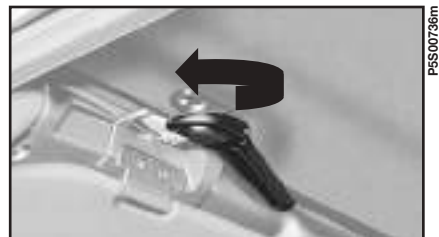

fig. 64
9) Working from inside the car, swing the sun visors down and lock the hard top in position on the windscreen transom by turning the handles **fig. 64**.